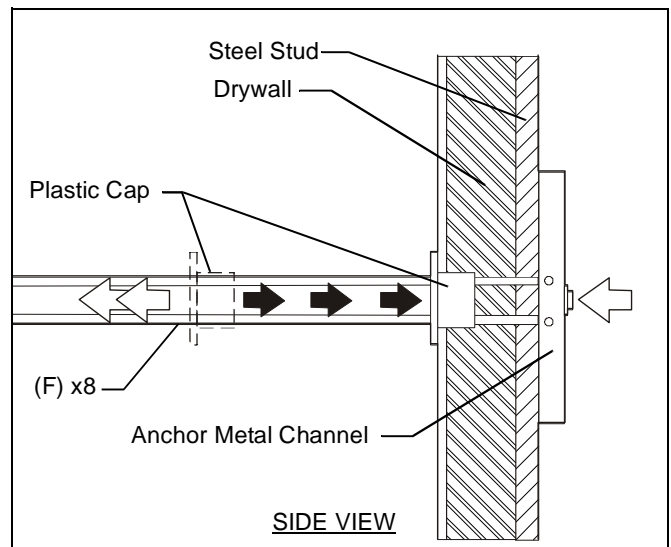

Figure 5
7. Holding plastic straps on anchor (F), pull anchor away from wall until channel rests flush behind wall making sure anchor channel is positioned vertically on stud as show in figues below. (See Figure 5)
8. Slide plastic cap on anchor (F) towards wall until flange of cap is flush with wall. (See Figure 5)